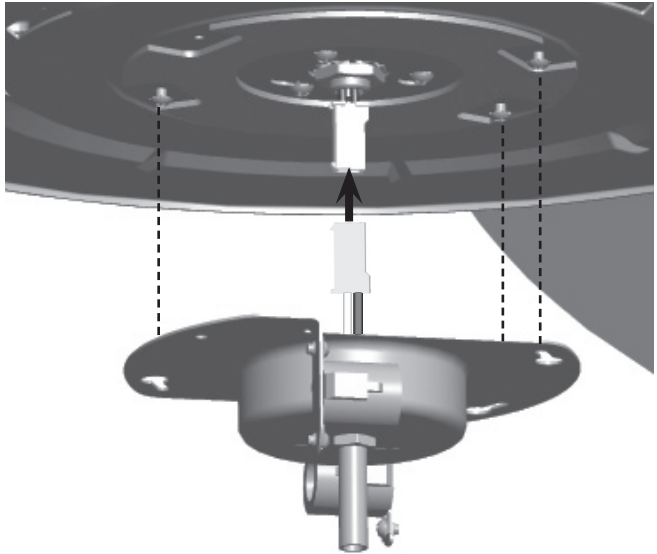

FIGURE 5.
Step 8. Align the keyhole slots in the Light Kit with the Light Kit Screws. Figure 5.